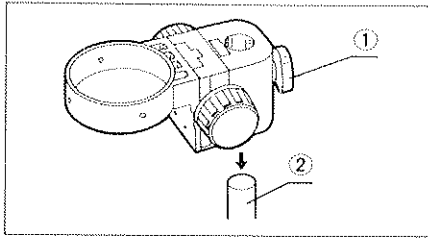

Fig. 1
(1) Loosen the clamping knob ① and insert the arm onto the pole ② of the equipment. Firmly tighten the clamping knob ①. (Fig. 1)
- ★ Do not tighten the clamping knob ① excessively before the arm has been mounted onto the pole.